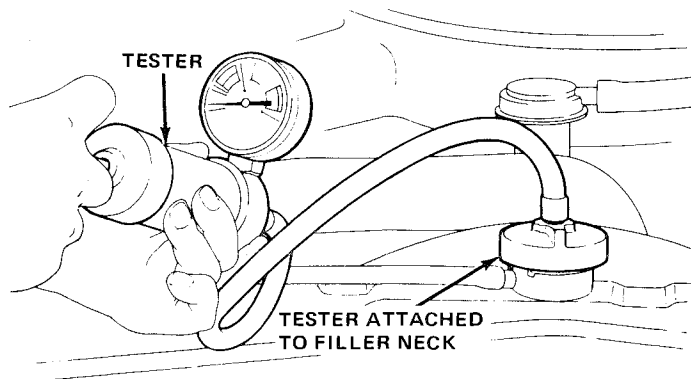

Fig. 1C-6 Cooling System Pressure Test
(2) Wipe inside of filler neck and examine lower inside sealing seat for nicks, cracks, paint, dirt and solder bumps.
(3) Inspect overflow tube for internal obstructions. Run wire through tube to be sure it is clear.
(4) Inspect cams on outside of filler neck. Bent cams will affect seating of pressure cap valve and tester seal. Carefully reform bent cams.
(5) Attach pressure tester to filler neck (fig. 1C-6). **Do not force.**
(6) Operate tester pump to apply 15 psi pressure to system. If hoses swell excessively while testing, replace as necessary.